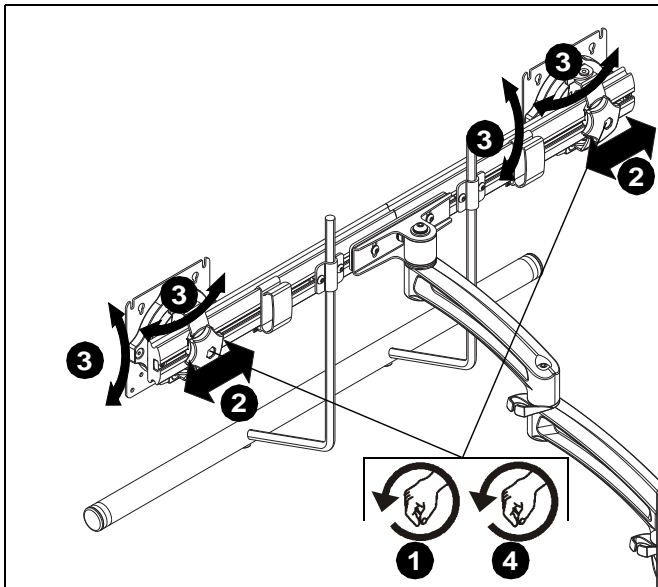

Figure 5
1. Loosen knobs securing faceplates to array. (See Figure 5)
2. Slide displays laterally on array to adjust lateral shift. (See Figure 5)
3. Adjust pitch and pivot position as desired. (See Figure 5)
4. Tighten knobs to secure faceplates in position. (See Figure 5)